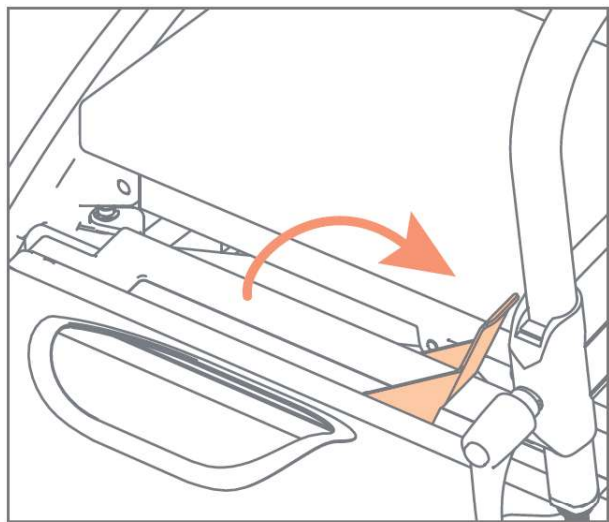

Figure 5
1. Pull up the red handle without force. This way the locking bolts are tied in, and the wheelchair package unlocked (Figure 5).